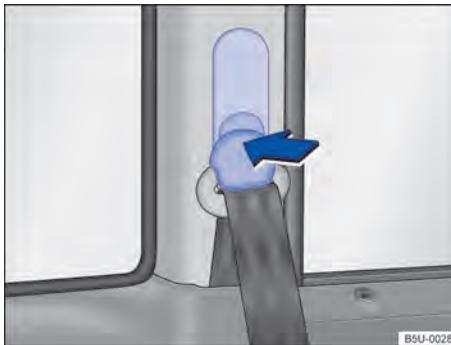

Fig. 31 Next to the seats: seat belt height adjuster.
- Press and hold the shoulder belt guide as indicated by the arrows → Fig. 31.